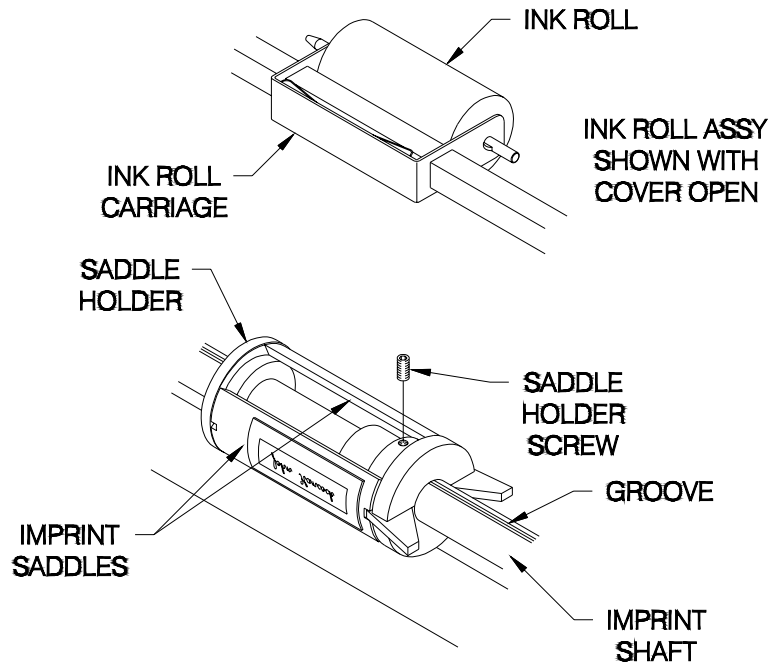

Figure 6.4 -- Setting Imprint Position Left / Right
Use the following instructions to move the imprint position left and right on the document. (Refer to **Figure 6.4**.)
3. Locate the **SADDLE HOLDER SCREW** midway between the two **IMPRINT SADDLES**. (Refer to **Figure 6.4**.)